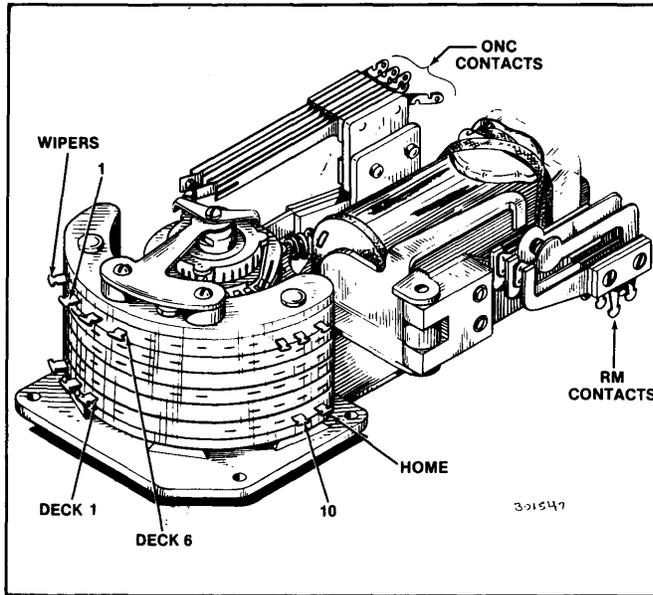

Figure 6-1. TTS 39XF Stepping Switch Pin Identification
4. To change cycle time of all frequencies to 5 seconds, remove one of the 200 microfarad capacitors mounted on CB1 in TTS 39XF. Also remove all strapping wire from deck D3 on stepping switch S1. See Figure 6-1.